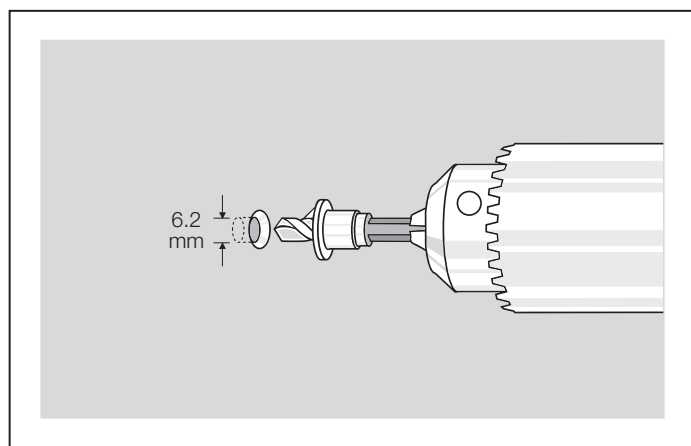
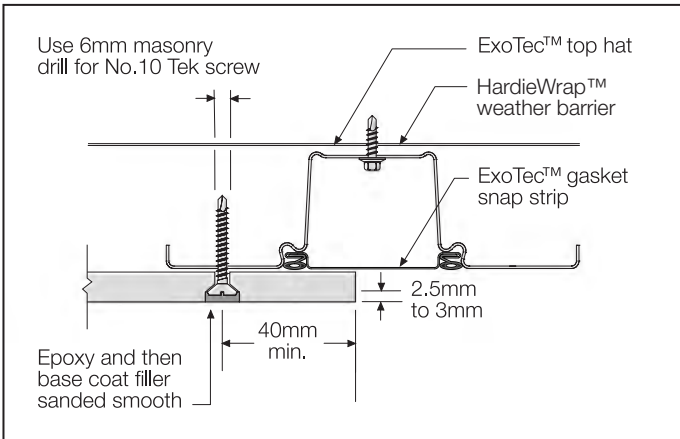

FIGURE 10 DRILL COUNTERSINK HOLE
FIGURE 15 COUNTERSUNK FASTENER DETAIL
2. Drill clearance holes into ExoTec™ facade panel, for No.10 gauge screws using a 6mm countersunk masonry drill, which provides a 6.2 to 6.3mm diameter hole, see Figure 10. Countersink hole to a depth of 2.5mm to 3mm. This is measured from the top of the screw to the top of the sheet, see Figure 15.